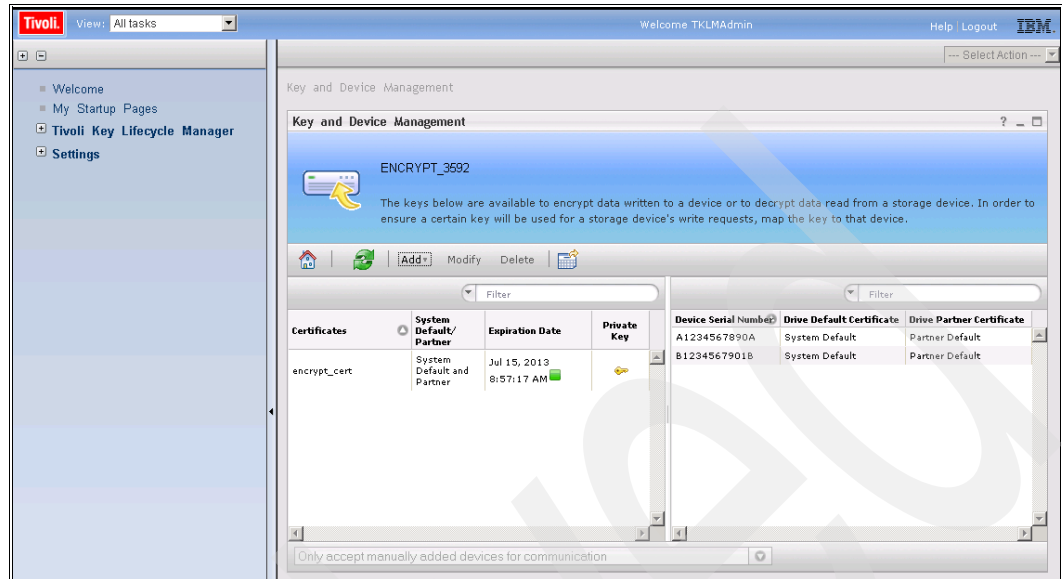

Figure 9-21 Tape drive successfully added
- When the process is complete, a panel similar to Figure 9-21 is displayed indicating that the addition of the tape drive was successful.